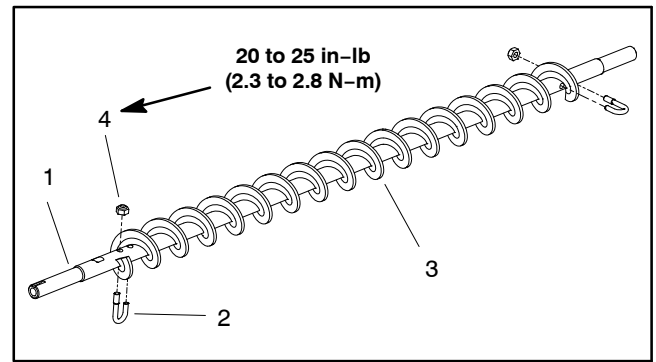

Figure 42
- C. Remove the LH brush support (item 15), bearing and locking collar from brush shaft and cutting unit.
- D. Remove lock nut and J-bolt from both ends of the brush (Fig. 42).
1. If roller brush was removed from brush shaft, slide brush onto shaft while rotating brush. Secure brush to shaft with two (2) J-bolts and lock nuts. Make sure that the J-bolts are installed with the threaded portion on the outside of the brush (Fig. 42). Torque lock nuts from **20 to 25 in-lb (2.3 to 2.8 N-m)**.